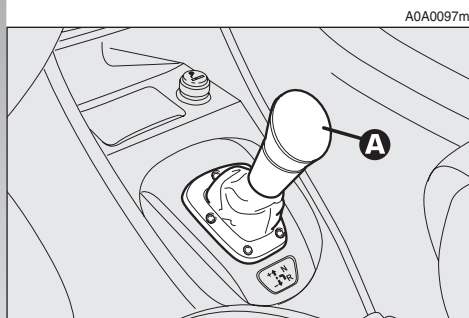

fig. 134
- the control lever on the centre console (**A-fig. 134**);